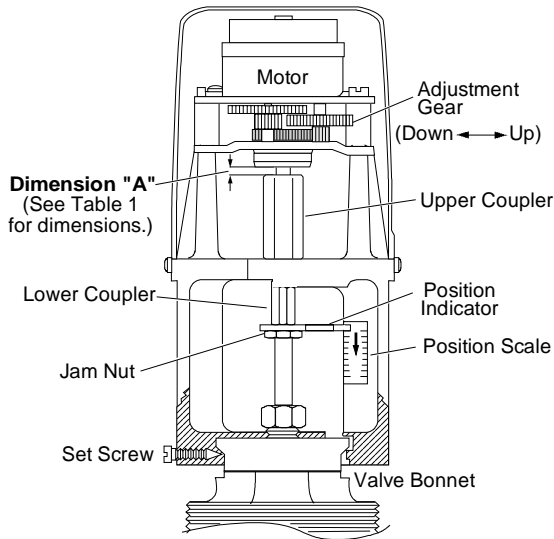

Figure 4: Actuator Components
2. Visually verify **Dimension "A"** as shown in Figure 4. Use Table 1 to determine the proper gap measurement. If required, manually turn the adjustment gear between the metal plates to achieve the correct gap.